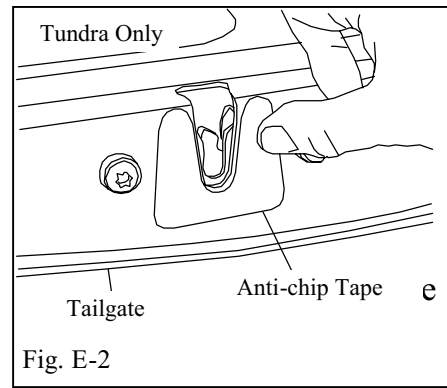

Fig. E-2
2. Install Anti-Chip Tape onto tailgate latch area as shown in Fig. E-2.